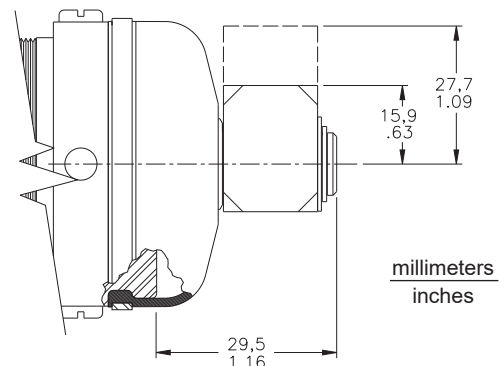

FIGURE 5
* With swivel fitting (see swivel fitting block drawing, Figure 5 on page 3).